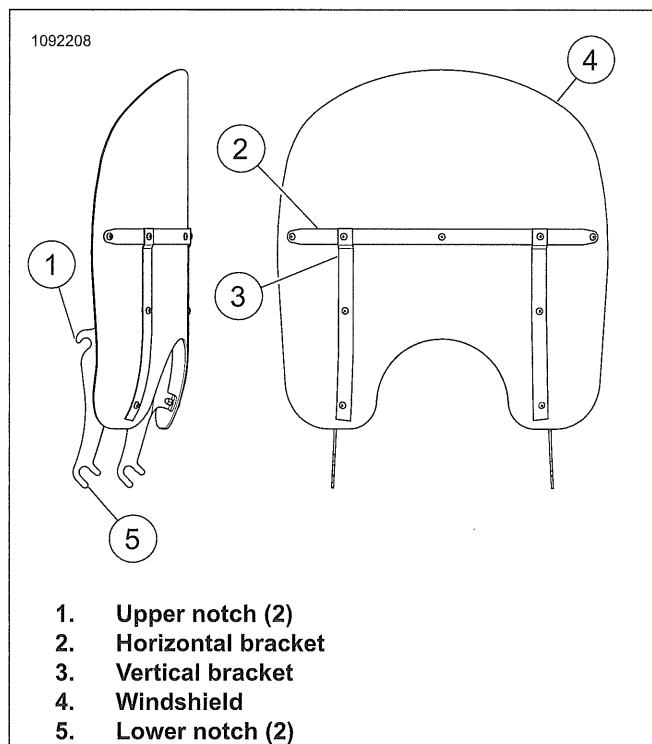

Figure 3-111. Windshield
1. See Figure 3-111. Remove windshield.
- a. Grab windshield at either side of horizontal bracket (2).
- b. Pull windshield so that upper notches (1) separate from grommets.
- c. Raise windshield until lower notches (5) separate from grommets.
1. See Figure 3-111. Install windshield.
- b. Push evenly on horizontal bracket (2) until notches are fully seated on grommets.